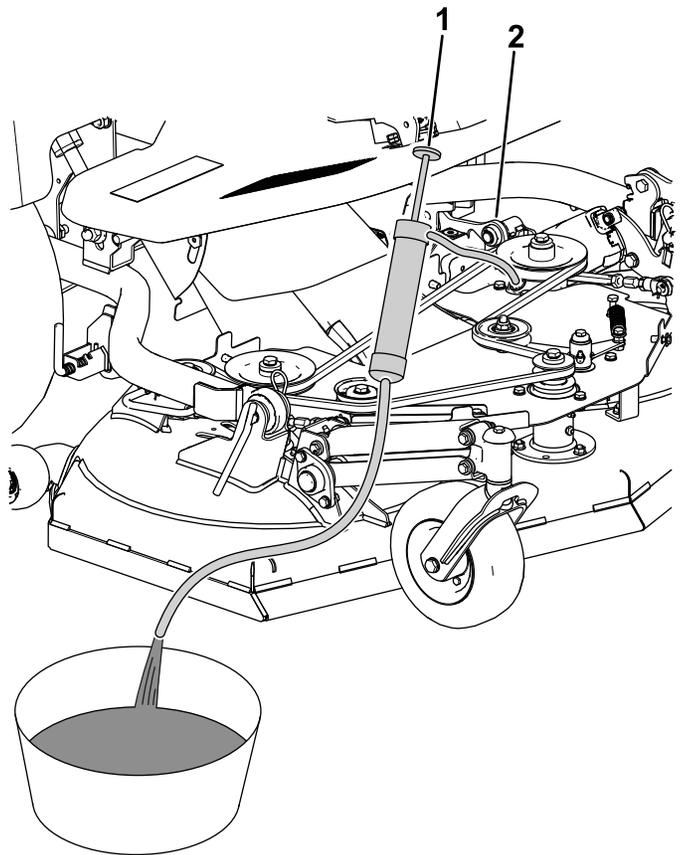

Figure 96
3. Using a siphon extract the gearbox oil from the gearbox (Figure 96).